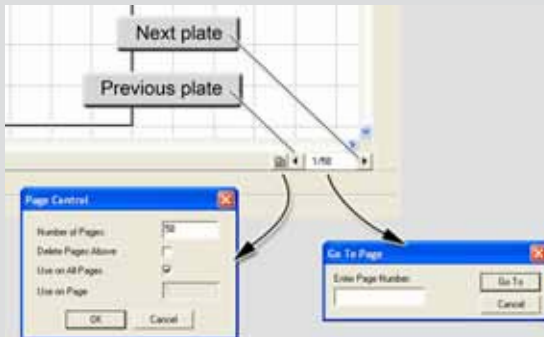

Fig. 44 - Use the **Paging Tool** to browse each badge.
3. To view the remaining badges, use the **Paging Tool** that is at the bottom-right corner of the workspace. Click the **Forward** and **Back** navigation buttons to access the other badges (Fig. 44).